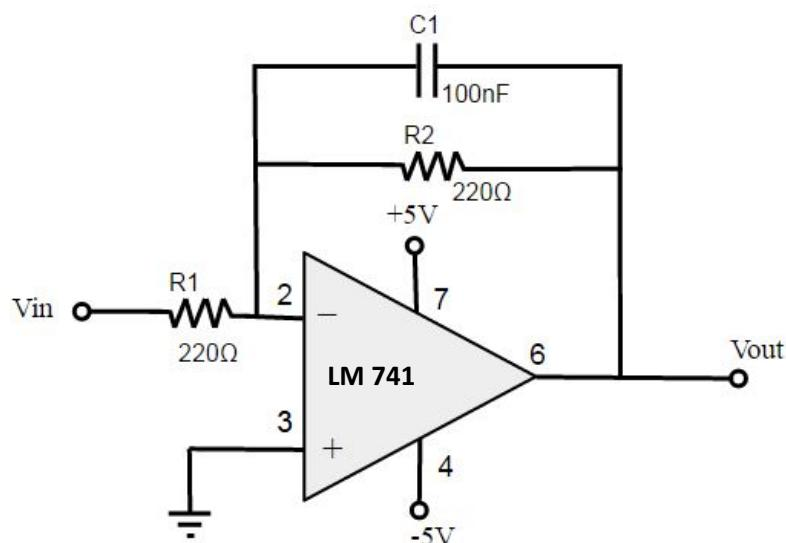

Figure 7. Schematic of a low-pass filter.
1. Build the active low-pass filter shown in Figure 7. (**Hint:** Look back at Figure 4 and Figure 5 to make sure that you understand how to translate a schematic to the breadboard!)